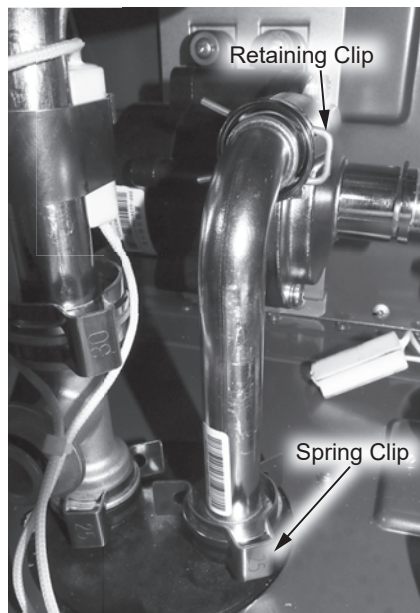

Figure 184 - Pump outlet tube location
- Locate the pump outlet tube. Remove the retaining clip securing tube to water pump. Locate and remove the spring clip (size 25) at the bottom of the pump outlet tube and disconnect tube from water connection and water pump. See Figure 184.